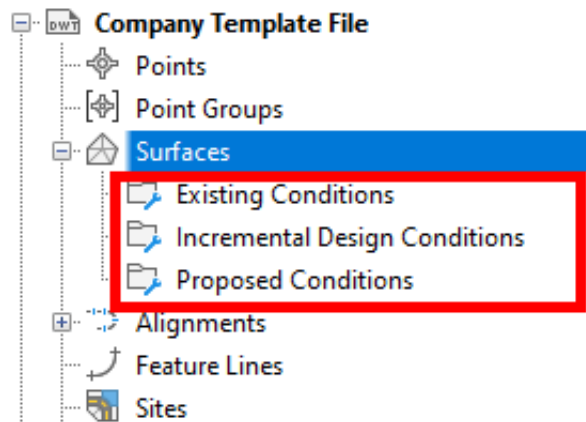

Figure 2.16 – Folders created to keep surfaces organized
3. Repeat *steps 1 and 2* to create folders for both **Incremental Design Conditions** and **Proposed Conditions** (refer to *Figure 2.16*).